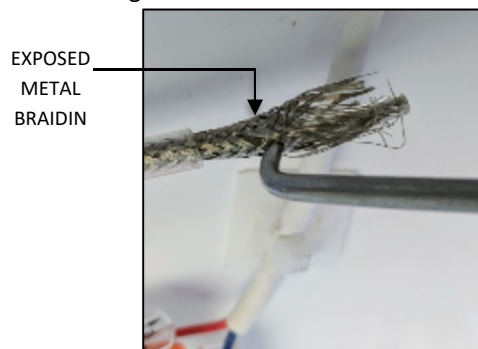
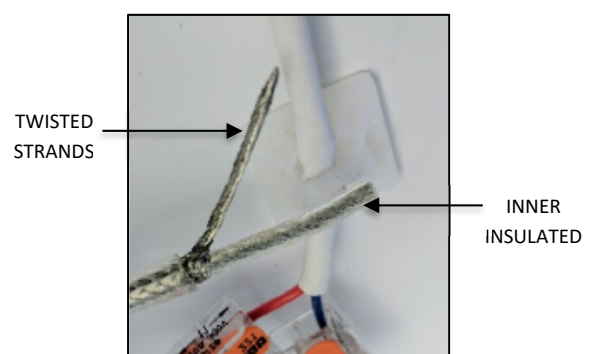

FIG. 24
FIG. 25
2. Using a small pointed object, begin unweaving the exposed metal braiding as shown in FIG. 24 below. Position the unwoven metal strands on one side of the inner insulated wire and twist the individual strands together as shown in FIG. 25 below.